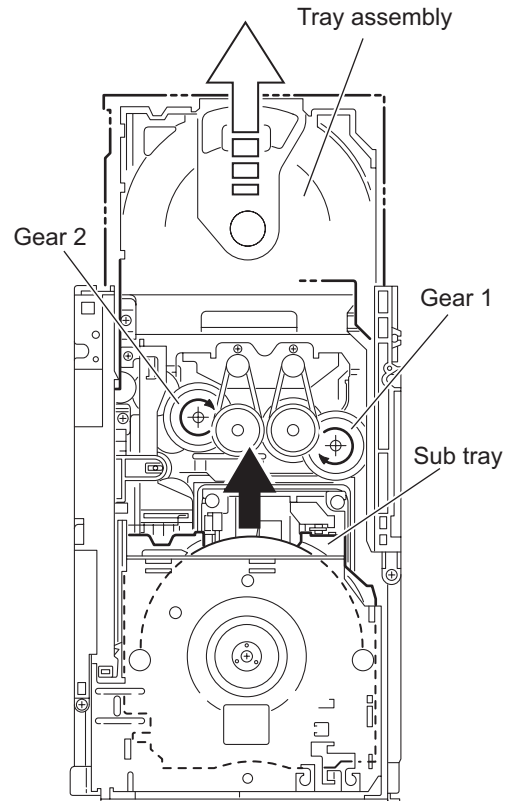
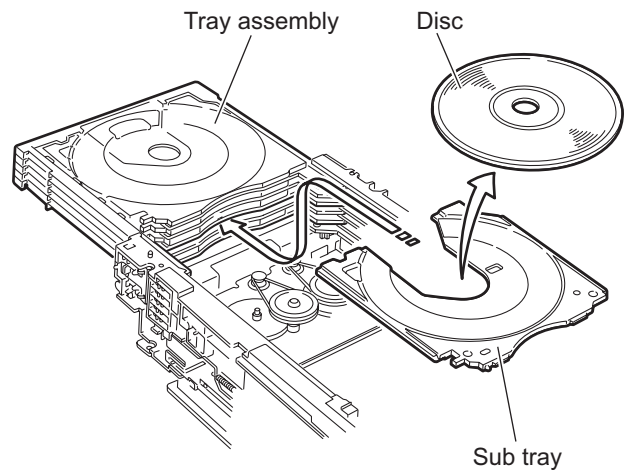

Fig.34
Fig.35
3.3.15 Taking out the disc in the play mode (See Fig.34 to 37)
- (1) From the top side of the DVD changer mechanism assembly, remove the top cover.
- (2) Unlock the tray assemblies and draw out the tray assemblies toward the front.
- (3) From the top side of the DVD changer mechanism assembly, turn the gear 1 clockwise to move the lifter assembly upward. (See Fig.34.)
- (4) Turn the gear 2 clockwise to move the sub tray remaining inside the lifter assembly toward the front, then pull out.
- (5) Take out the disc on the sub tray. (See Fig.35.)